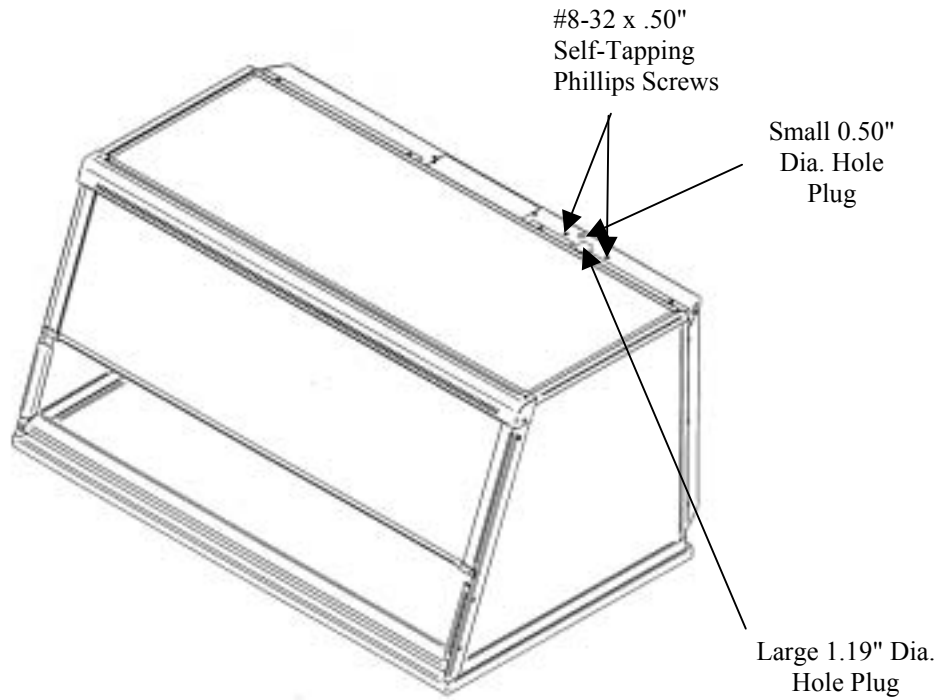
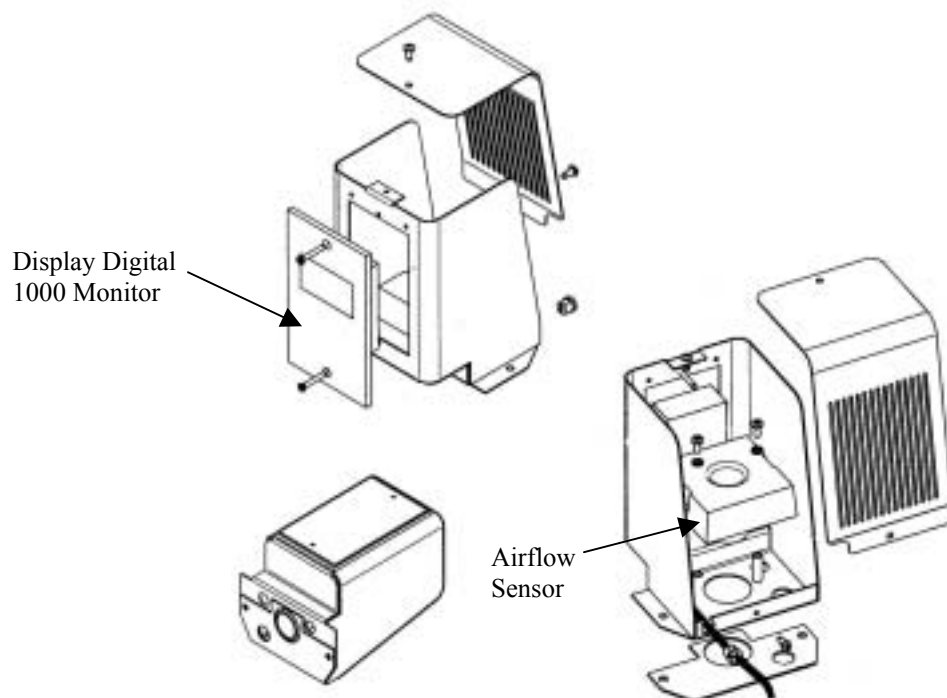

Figure 6-2
Figure 6-5
2. First remove the small 0.50" dia. gray hole plug and two #8-32 x 0.50" self-tapping Phillips screws from the hood. Keep the screws for step 5. See Figure 6-2.
- the screws for step 3. See Figure 6-2. See Figure 6-5 only to reference internal assembly of the airflow monitor.